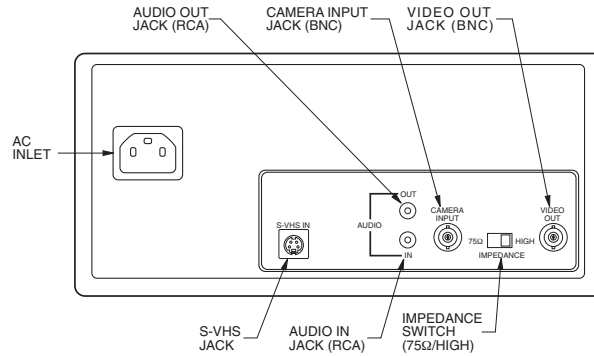

Figure 2. Rear Panel Connections
- Connect the equipment as shown in Figures 2 through 5. Refer to Table A for the type of video coaxial cable to use.
- Plug the appropriate power cord into the AC INLET connection on the rear panel of the monitor (refer to Figure 2). Plug the other end into a power receptacle.